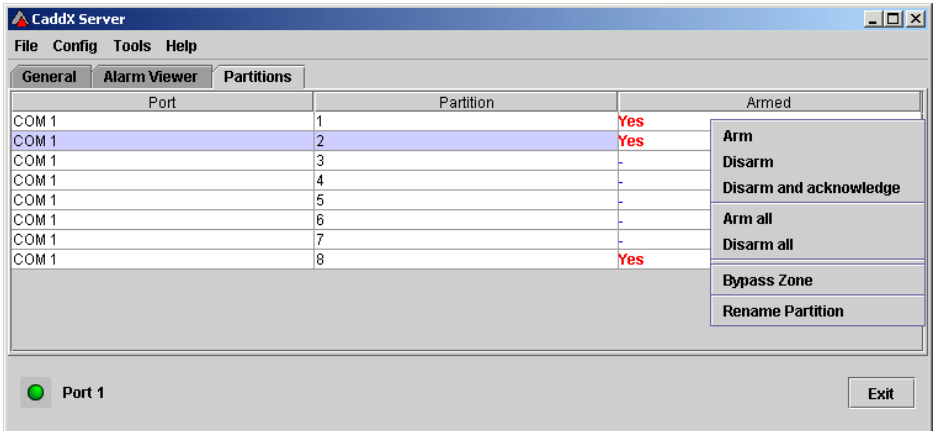

Figure 15 : Partition Options Menu
- [9] The Options Box shown in the next illustration (Figure 15) will be displayed.